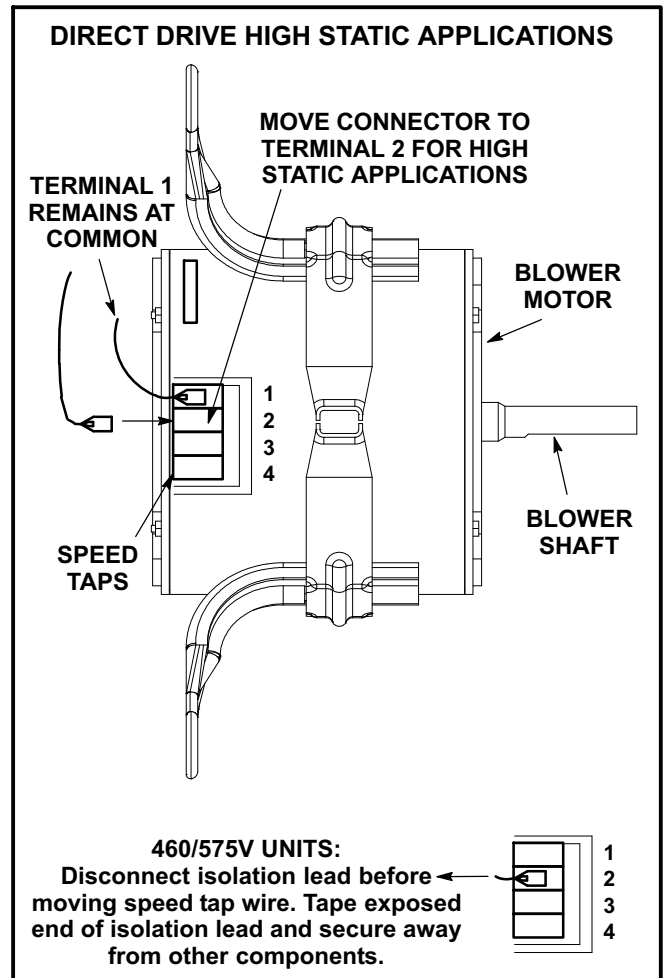

FIGURE 14
- 4- Use tables 2 through 7, the measured static pressure, and the factory-set blower speed to determine CFM. If CFM is lower than the design specified CFM, move the lead from speed tap 3 or 4 to speed tap 2. See figure 14. Refer to table 9 for minimum airflow when electric heat is installed.